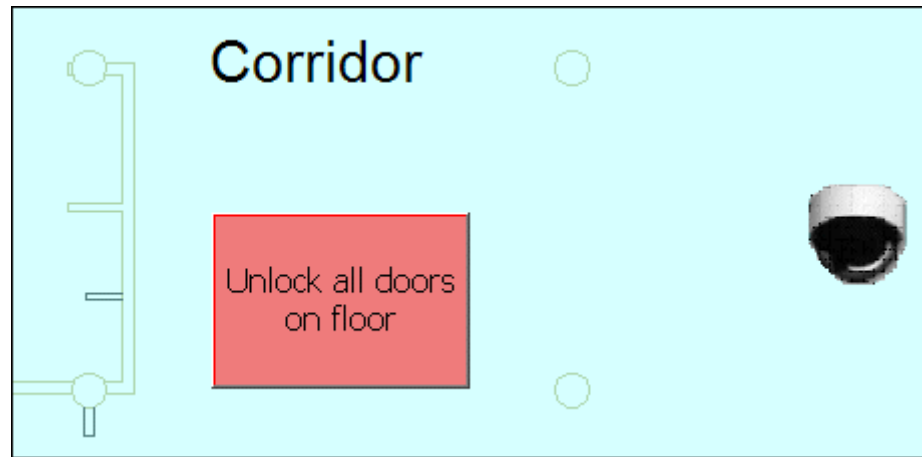

Fig. 22 Example of graphic command button on a map
7. Close the window to save your changes. (See Fig. 22.)